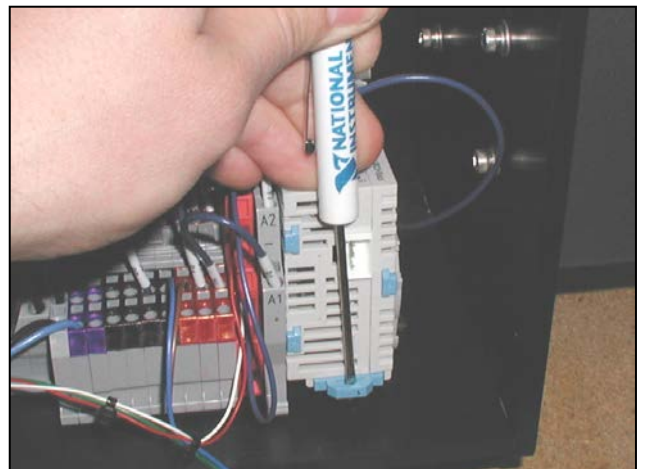

Figure 3-75 Removing PLC
3. Using a small flat screwdriver, pull the blue DIN rail release tab toward you and pivot the PLC up and back (Figure 3-75).